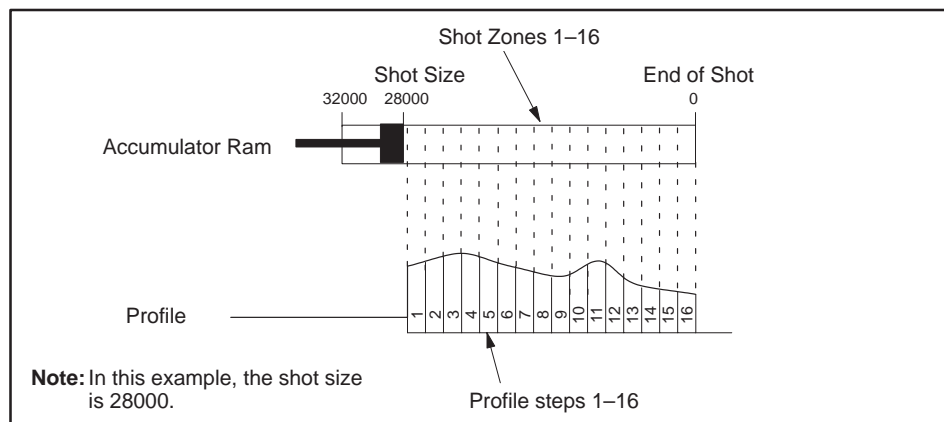

Figure 5-1 Relationship Between Ram Position and Profile
In position-based mode, the module links profile execution to the position of the accumulator ram (or reciprocating screw). The total shot size is divided by the number of setpoint entries (N) for the profile. This results in N zones, where each zone has a corresponding setpoint in the Profile Setpoint table (Figure 5-1).